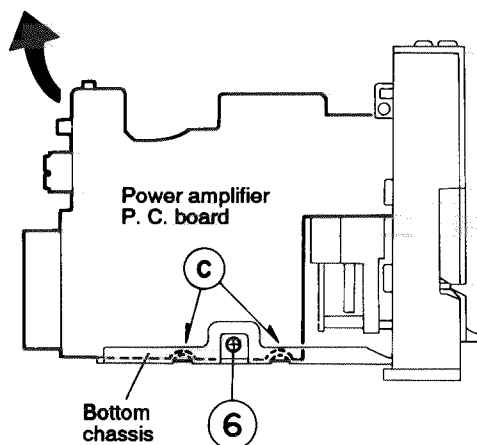

Fig. 5-10
7. Remove the one screw ⑥ retaining the power amplifier P. C. board (See Fig. 5-10).
9. After removing the power amplifier P. C. board from the key way ③ on the bottom chassis, take this P. C. board out while raising in the arrow direction (See Fig. 5-10).